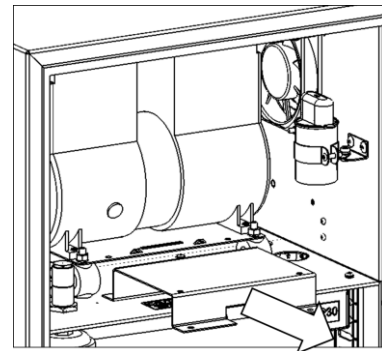

Figure 3: Slide bracket out
3. Slide the transit bracket out from under the compressor by pulling it towards you. See Figure 3.